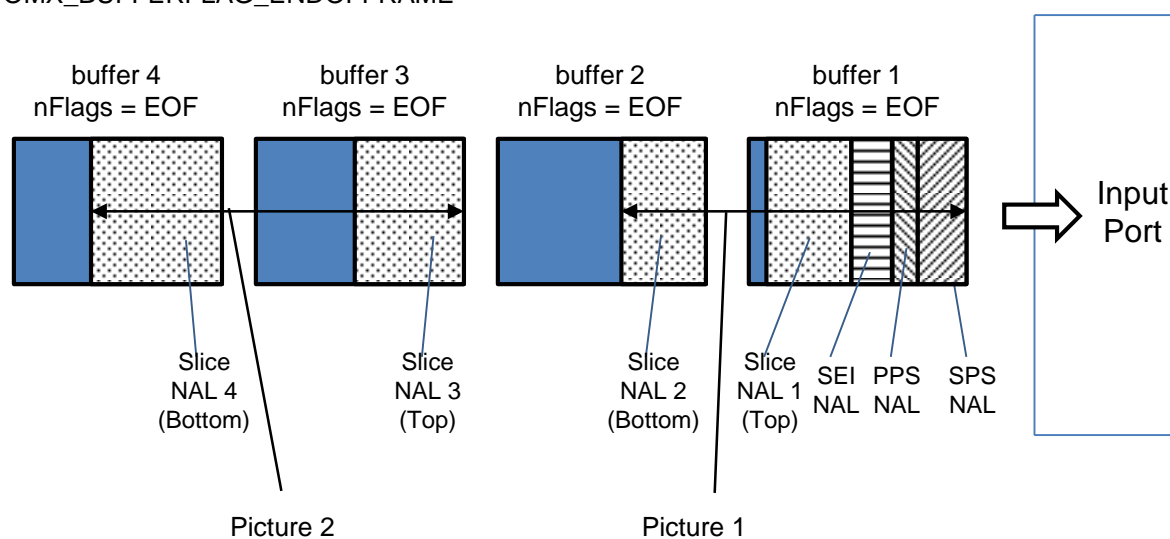

Figure 3-2 Example of Input Buffer Sequence - An Interlaced Field
- An interlaced field (see Figure 3-2)